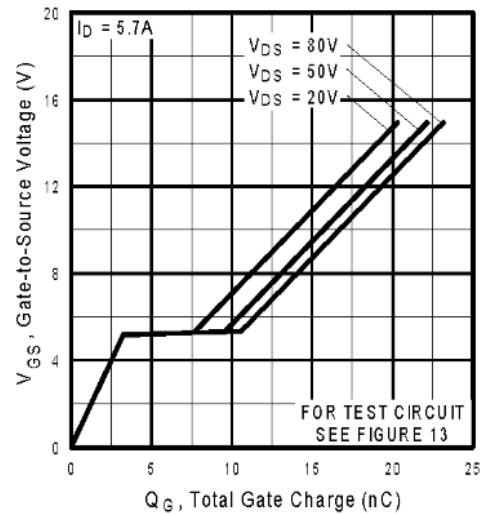

Fig 6. Typical Gate Charge Vs.
| Q_{gd} | Gate-to-Drain ("Miller") Charge | — | — | 11 | | $V_{GS} = 10V$. See Fig. 6 and 13 ④⑥ |